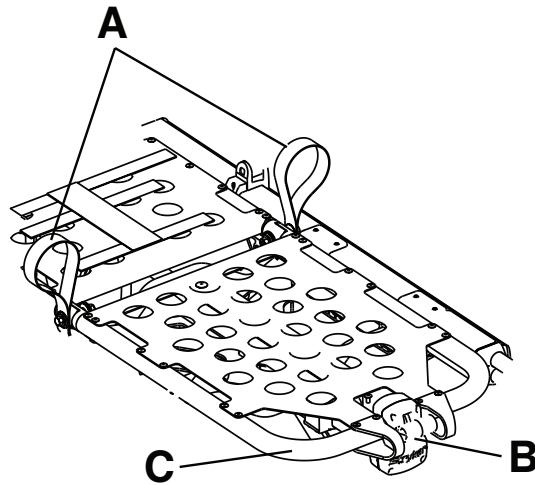

Figure 9 – Gatch
1. Lift either of the red lifting loops (A) until the knee Gatch is in the highest position (Figure 9).
To lower the knee Gatch, lift either of the red lifting loops (A) to relieve pressure on the locking mechanism. While you hold the loop, push on the red footrest release handle (B) until the support bracket is released (Figure 9). Lower the knee Gatch until it lays flat.
To raise the knee Gatch in Trendelenburg, lift the footrest frame (C) as high as possible until the frame locks into place (Figure 9). The support bracket automatically connects when you release the frame.
To lower the knee Gatch in Trendelenburg, lift the footrest frame (C) and, while you hold the frame, lift up on the red footrest release handle (B) until the frame releases the support bracket (Figure 9). Lower the footrest until it lays flat.